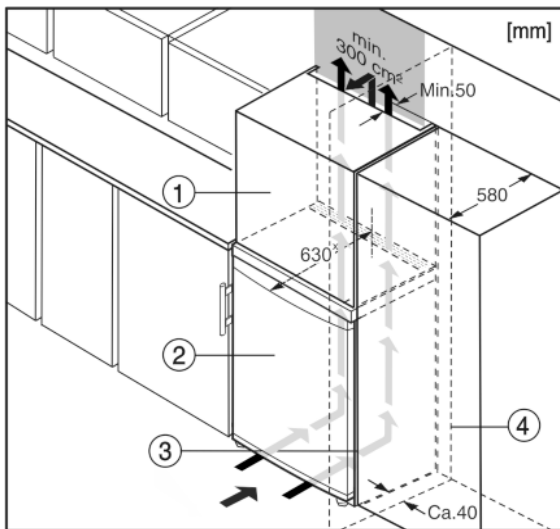

Fig. 5
- (1) Stack cabinet
- (2) Appliance
- (3) Kitchen cabinet
- (4) Wall
The appliance can be built into kitchen units. A top cupboard Fig. 5 (2) can be added above the appliance in order to bring the appliance Fig. 5 (1) up to the height of the fitted kitchen units.
When installing with kitchen units (max. depth 580 mm), the appliance can be positioned directly next to the kitchen cabinet Fig. 5 (3). The appliance will project by 34 mm * at the sides and 50 mm * in the centre of the appliance in relation to the kitchen cabinet front.
If the appliance is installed with the hinges next to a wall Fig. 5 (4), the distance between appliance and wall has to be at least 40 mm. This corresponds to the projection of the handle when the door is open.